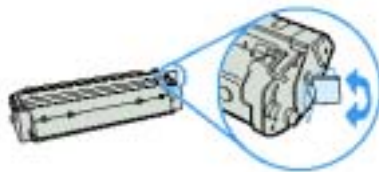

Figure 10. Bending And Breaking The Tab
3. Bend the tab on the right side of the cartridge to break it loose as shown in Figure 10.